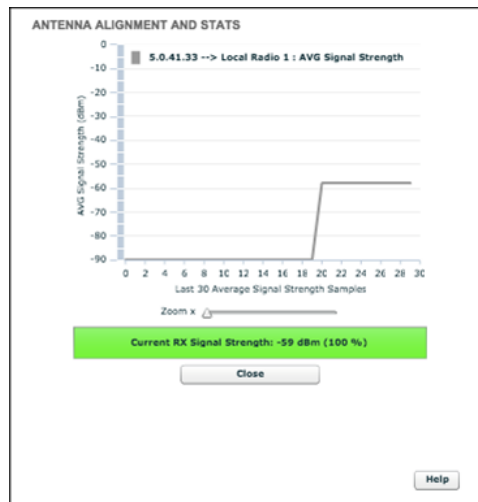

Figure 27. Antenna alignment and stats tool
- The **ANTENNA ALIGNMENT AND STATS** tool will be shown (Figure 27 (page 73)).